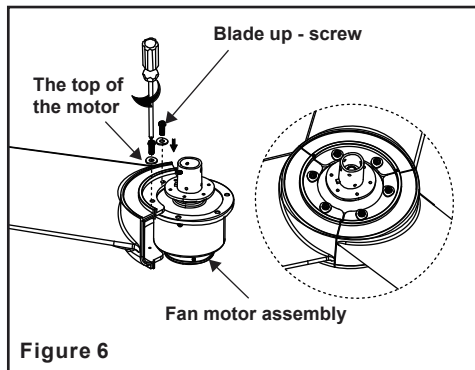

Figure 6
**Step 1.** Attach the blades to the fan motor assembly using blade up-screws as shown in Figure 6. Start a screw into the blade, do not tighten. Repeat for the remaining screw and washer. Repeat these steps for the remaining blades.